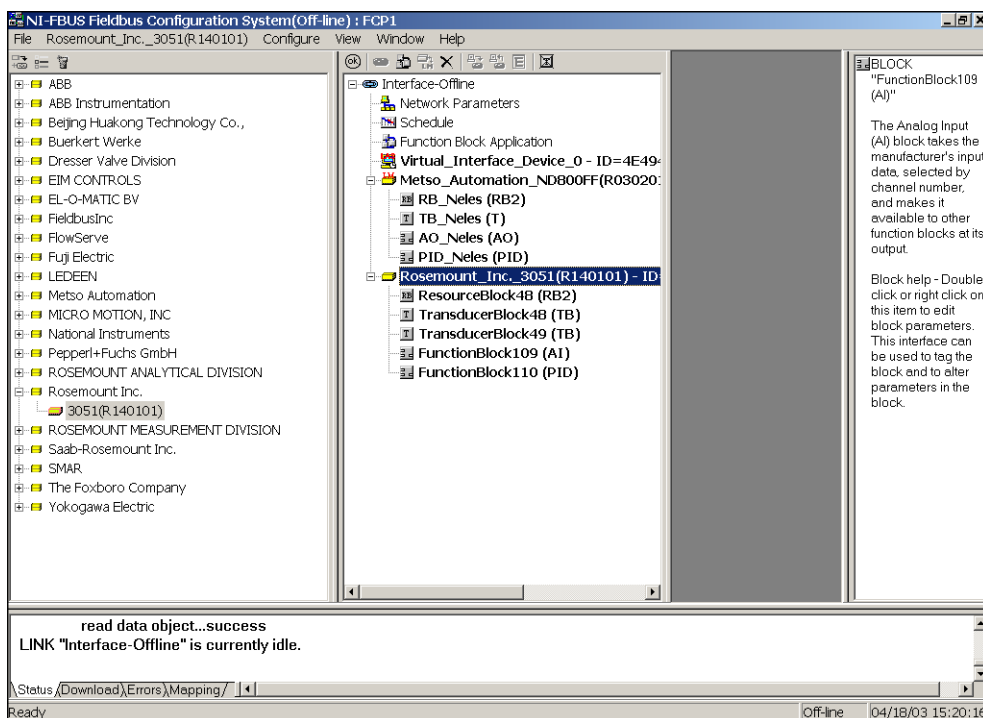

Figure 3-7. Virtual Devices Added Into Fieldbus
3. The NI-FBUS Offline Configurator creates a virtual interface and multiple virtual devices added by the user. The virtual devices are created from DD and CFF files. If you provide incorrect DD or CFF files, the corresponding virtual device may not work properly, as shown in Figure 3-7.